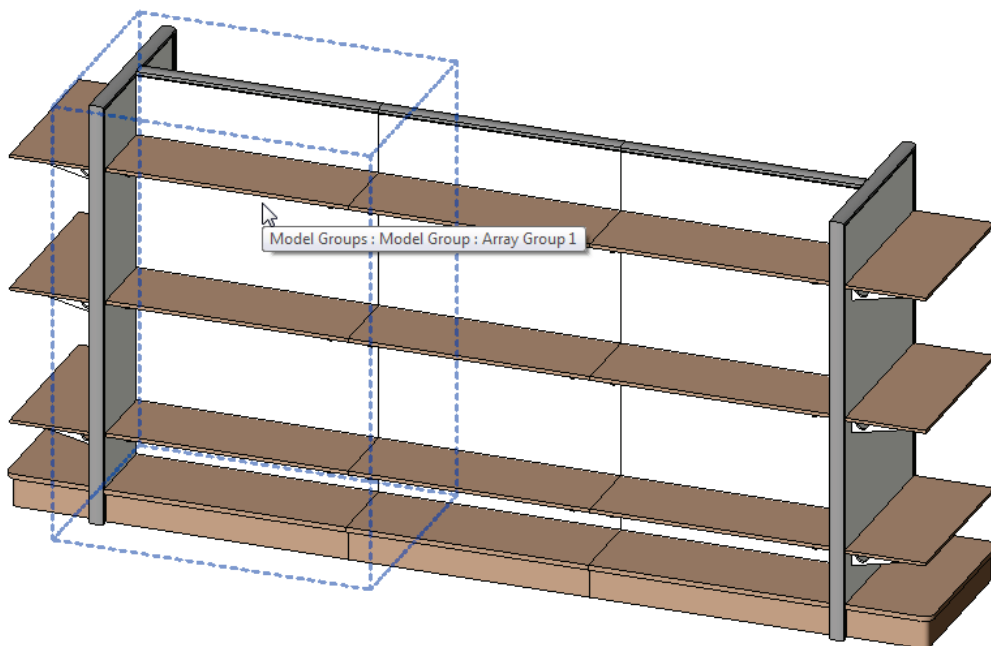

Figure 15—Nested Families simplify the creation of parametric arrays
- **Nesting helps with rotation, mirroring and arrays**—If you need to rotate, move or mirror an element parametrically or wish to make a parametric array in your family, nesting is almost a must. It is not impossible to achieve these behaviors without nesting, but it can be much more challenging (see Figure 15).